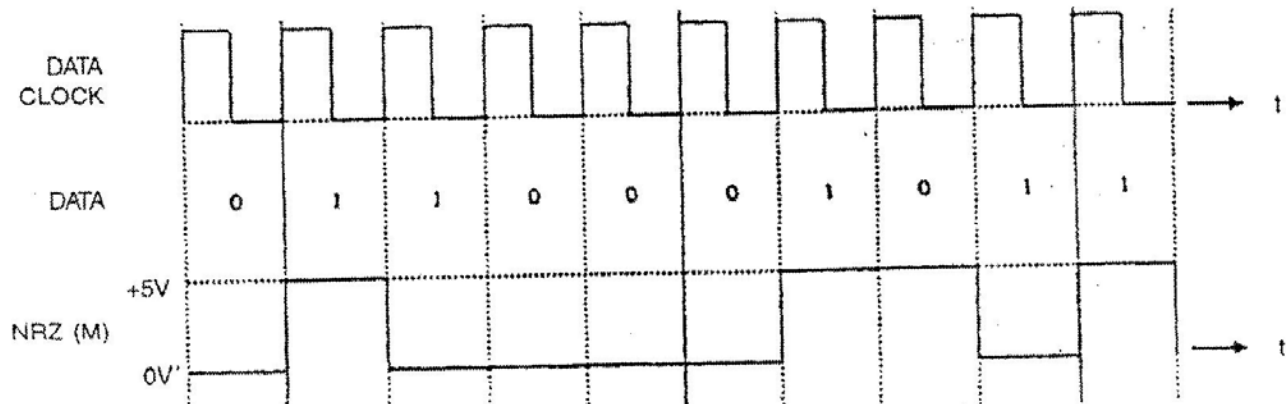

Figure 2
The NRZ (M) code is very much similar to the NRZ (L) code. Here if logic 1 is to be transmitted. The new level is inverse of the previous level i.e. change in level occurs. If a data '0' is to be transmitted the level remains unchanged. Thus in the case of NRZ (M) waveform the present level is related to the previous levels. See figure 2.